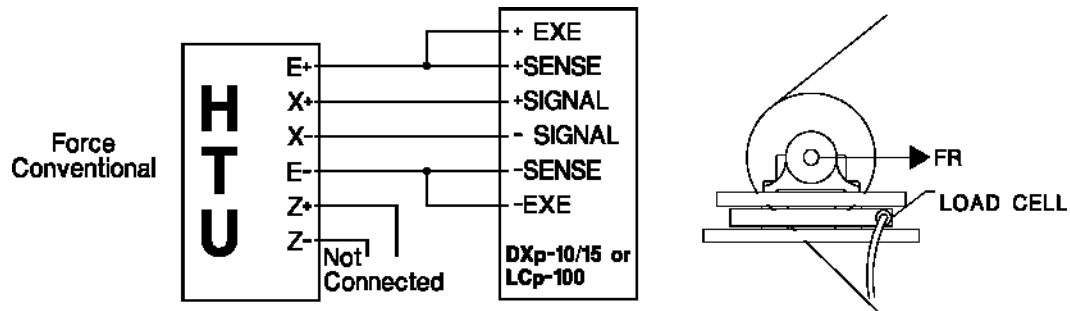

Figure 2-13. Horizontal Force Detection Wiring Configurations
For applications where entry and exit wrap angles are symmetrical and web tension force is applied horizontally to the transducer, connect the (X) output leads as shown in Figure 2-13. Leave the Z output leads disconnected.